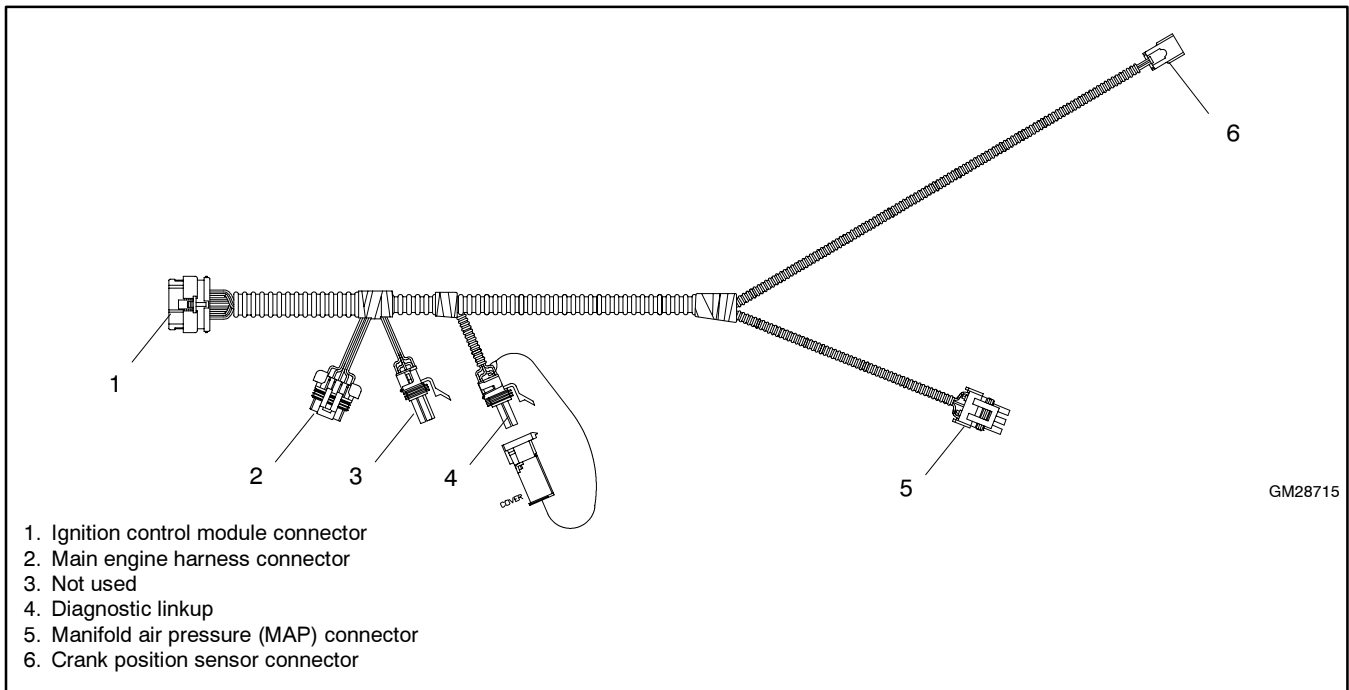

Figure 5 Jumper Harness GM28715-S
5. Perform the following steps to connect the new jumper harness (GM28715-S) to the existing engine harness. See Figure 5.
11. Perform the following steps to connect the new jumper harness (GM28715-S) to the existing engine harness. See Figure 5.